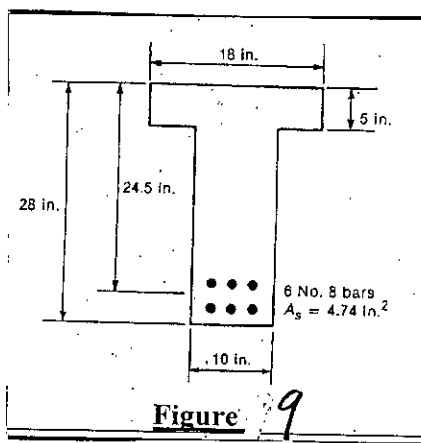

Figure 9
- (b) Compute the positive moment strength, ΦM_n for the beam section shown in Figure 9. Given, $f'_c = 3$ ksi, $f_y = 60$ ksi. (20)